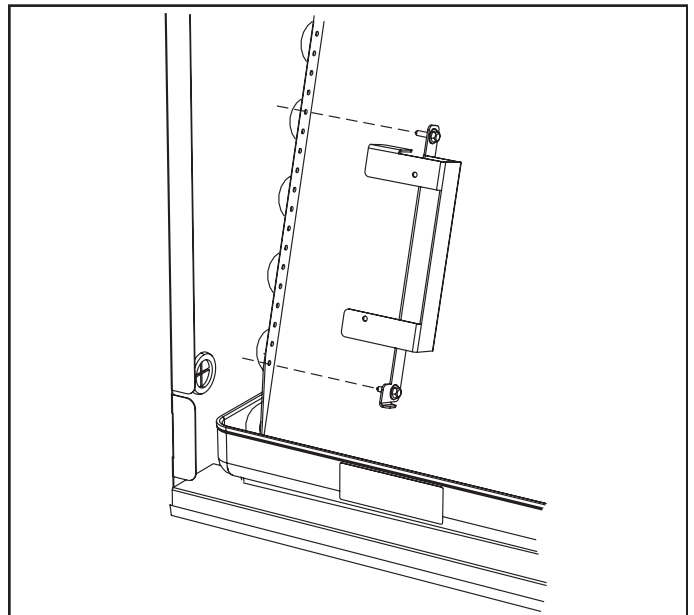

FIGURE 3
- 3 - Working from the inside of the coil, attach the bracket bottom clearance hole to the bottom attachment hole in the coil end plate using provided screws (figure 3).